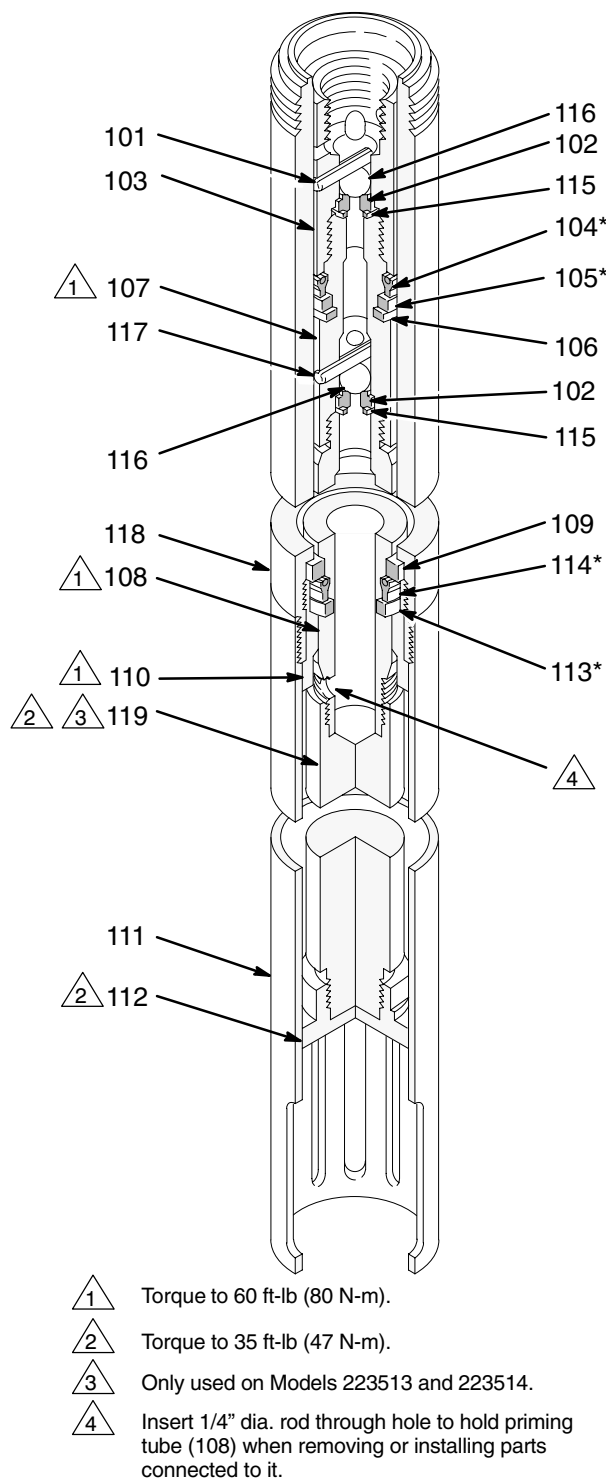

Fig. 14
1. Insert the pin (101) into the piston coupling (103), and insert the pin (117) into the pump piston (107).
2. Put the pump piston (107) in a vise, and stack the spacer (106), seal (105*), packing (104*), gasket (115), seat (102), and ball (116) on it in the order shown in Fig. 14. Thread the piston coupling (103) onto the pump piston (107), and torque it to 60 ft-lb (80 N-m).
3. Turn the pump piston (107) over in the vise, and insert the ball (116), seat (102), and gasket (115).
4. Assemble the seal (113), packing (114) and bearing (109) on the packing housing (110). Screw the packing housing into the cylinder (118), and torque to 60 ft-lb (80 N-m).
6. **Models 223513, 223514 only:** Screw the piston rod (119) onto the priming tube (108). Torque to 35 ft-lb (47 N-m).
7. Place the gasket (202*) in the base of the reciprocator. Place the o-ring (203*) into the groove of the pump adapter (43). Screw the cylinder into the pump adapter.
8. Firmly screw the priming piston (112) onto the piston rod (119). Torque to 35 ft-lb (47 N-m).
9. Firmly screw the priming cylinder (111) onto the cylinder (118).